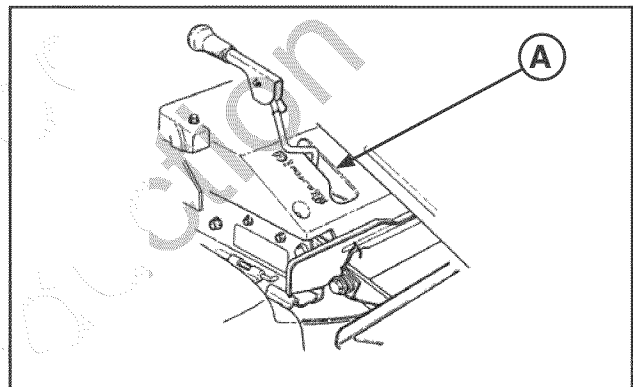

FIGURE 5
2. Make sure the blade lever (**A**, Figure 5) is in the OFF position.